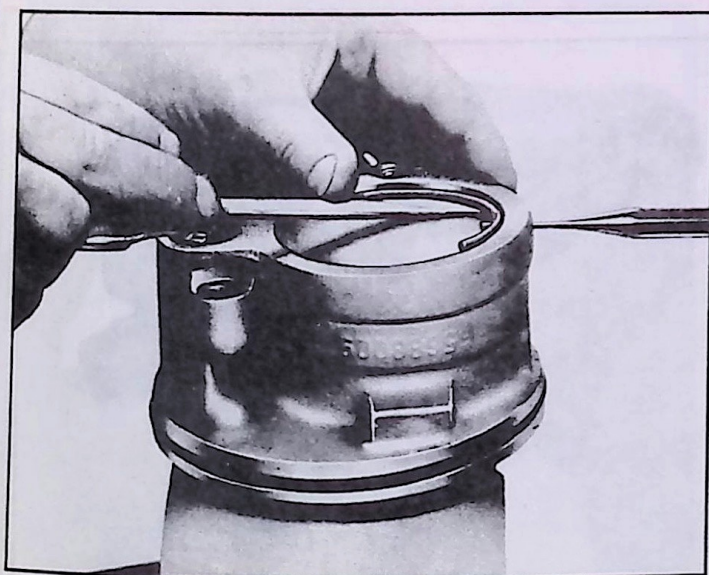

Fig. 18—Removing End Plate Ring
7. Remove the end plate retaining ring. Compress the end plate retaining ring by inserting a small punch in the 1/8" diameter hole in the pump housing. When the ring is in compressed position, remove with a screw driver as shown in Figure 18.